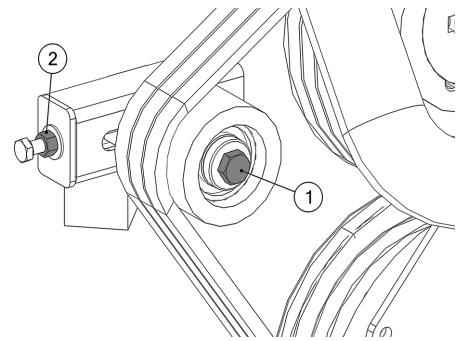

Figure 23 - Tensioner Pulley Assembly
2. Use a 19 mm spanner to loosen the bolt in the centre of the tensioner pulley until the pulley is able to slide with minimal wobble (Figure 23, Item 1).
3. Turn the nut on the end of the tensioner pulley slider until the correct belt tension is achieved (Figure 23, Item 2). (Refer to Section 6.10 "V- Belt Tensioning Procedure" on page 44.)